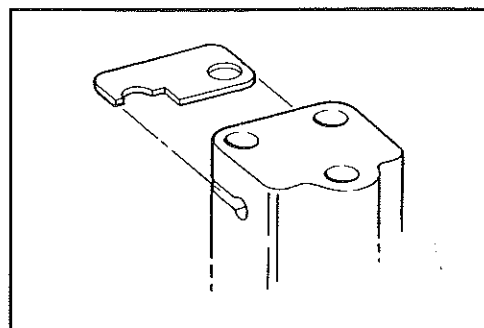

Fig. 3
3. Install a mounting shim into slot in each pedestal. See Fig. 3. One end of shim is notched to clear the dowel pin in the rocker shaft. Visually locate dowel pin in slot before installation. Make sure that shims do not touch the intake or exhaust rocker levers.